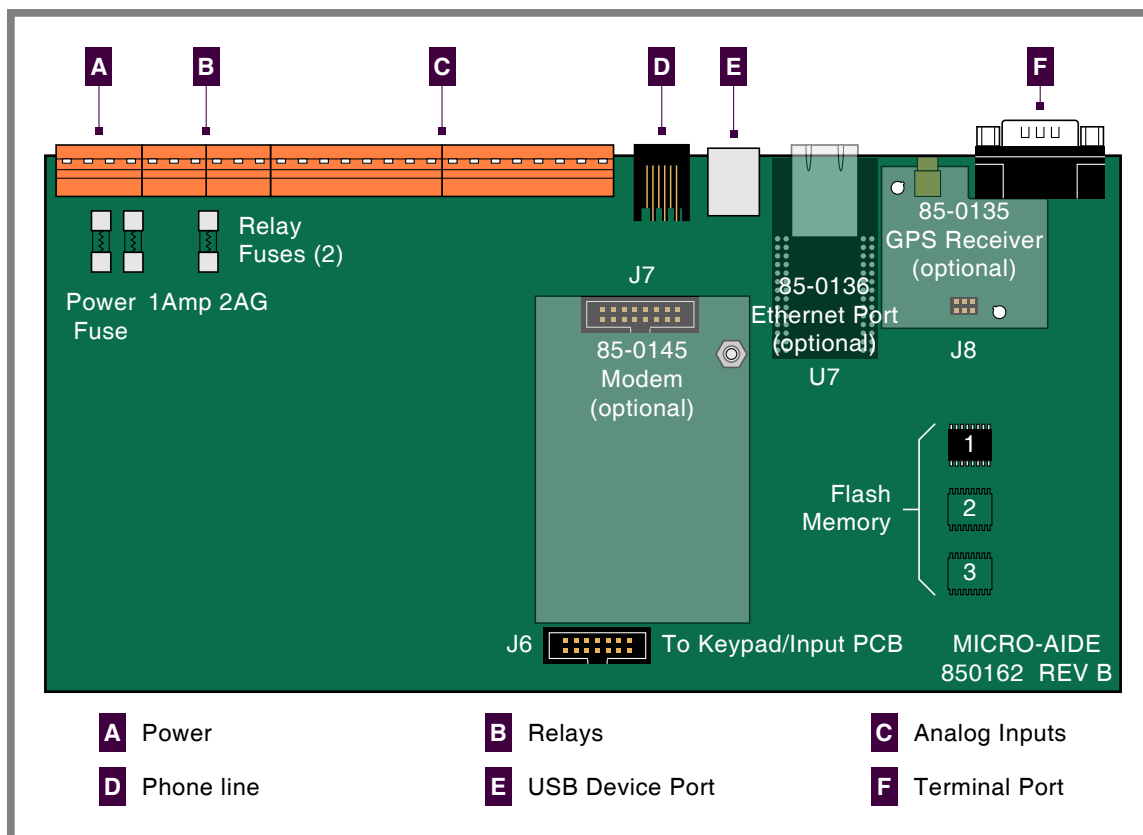

Figure 7: Processor PCB
There are three fuses mounted on the Processor PCB. The fuses are designed to protect the input power source and the contacts of the output relays. Each are rated at 1 A and conform to the 2AG size standard. Before replacing a fuse the cause of the blown fuse should be ascertained and cleared if possible. The fuses are illustrated in Figure 7 on page 85.
Generally, the GPS Receiver is ordered at the time the recorder is purchased and is pre-installed at the factory. If the receiver was not previously ordered, it can be installed by the user. To install the receiver follow the steps listed in the following. The GPS Receiver PCB is illustrated in Figure 7 on page 85.
3. Locate the 6-pin female socket labeled "J8" near the top-right edge of the Processor PCB. The socket is illustrated in Figure 7 on page 85.
Generally, the modem PCB is ordered at the time the recorder is purchased and is pre-installed at the factory. If the modem was not previously ordered, it can be installed by the user. To install the modem follow the steps listed in the following. The modem is illustrated in Figure 7 on page 85.
2. Locate the 16-pin female socket labeled "J7" near the center of the Processor PCB. The socket is illustrated in Figure 7 on page 85.
3. Locate the 56-pin female socket labeled "U7" along the upper edge of the Processor PCB. The socket is illustrated in Figure 7 on page 85.